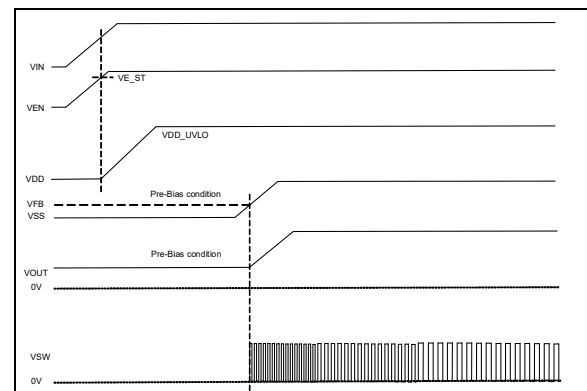

FIGURE 4-15: Pre-bias Startup Waveform.
In the case of pre-bias on the output, both the LSFET and HSFET are disabled from switching as the soft start (SS) ramps up. As shown in Figure 4-15, when the SS voltage reaches the FB pin pre-bias voltage level, the MOSFETs' switching is enabled. The output voltage then starts ramping up monotonically from the pre-biased voltage. This mechanism is active only during start-up; it is not active during load transients.